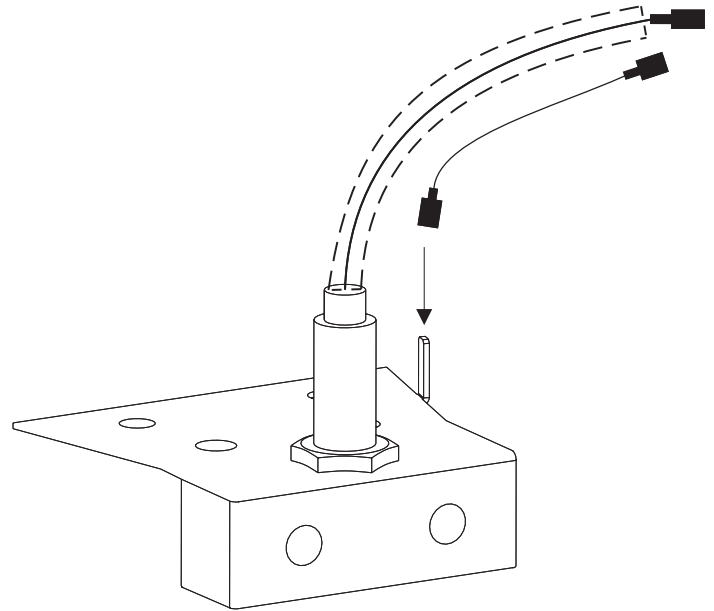

Figure 11
1. Connect the ground wire to the ground lug on the collector box before installing the burner into the grill. See Figure 11.